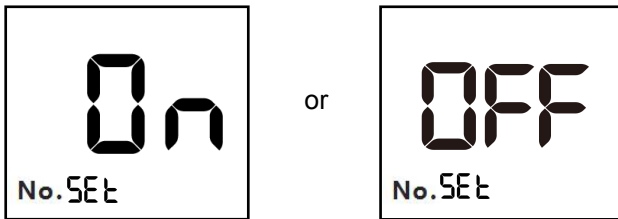

Fig. 15
- Press ◀ or ▶ button to select “On” or “OFF” to set the start test number. The start test number will reset to 1 for each day if “On” is selected, and the start test number will continue increase for each day if “OFF” is selected. (Ref Fig. 15)